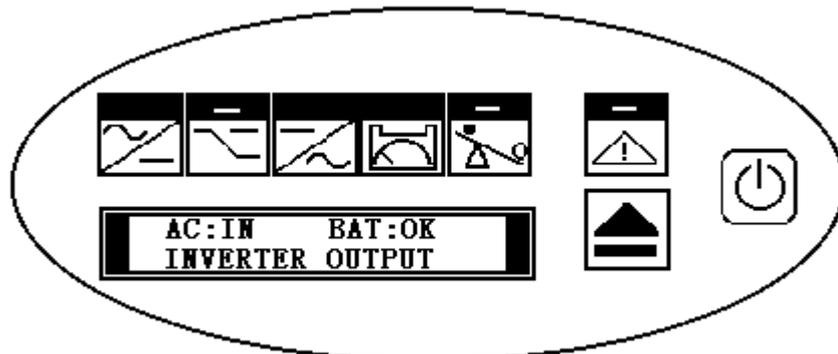

Fig16
- c. After 20 seconds with the front panel, input indicator are lightness LCD display (AC) OK, (BAT) OK, inverter output, refer to Fig16